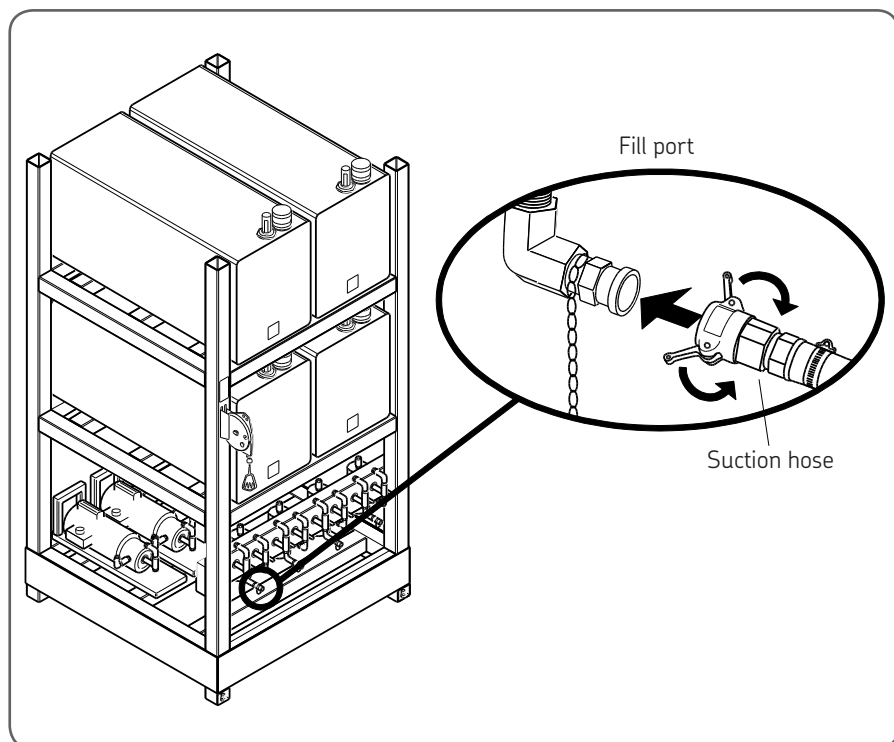

Fig 24 Attach suction hose assembly to fill port inlet
5. Attach the coupling-end of the suction hose assembly to the front of the unit. See figure 24.